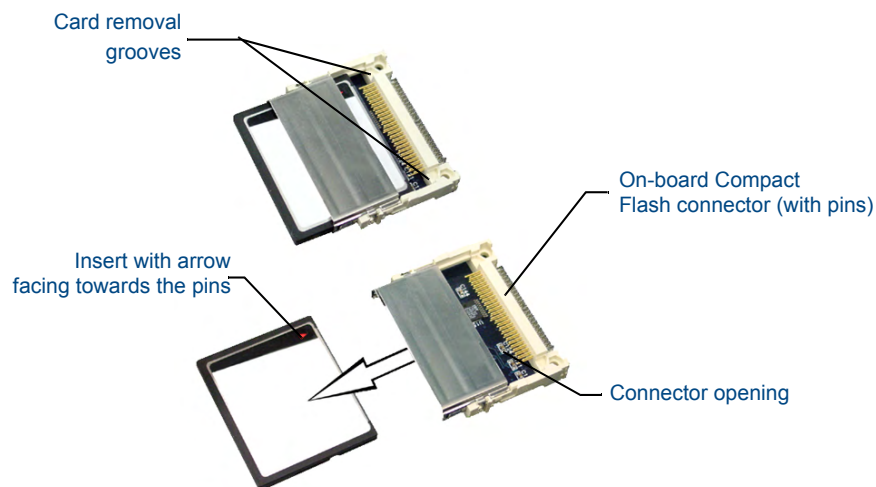

FIG. 7 Removing/installing a Compact Flash Memory card
3. Insert the tip of a grounded flat-head screwdriver into one of the card removal grooves (located on either side of the existing card), and gently pry it out of the slot (FIG. 7). Repeat this process on the opposite card removal groove. *This alternating action causes the card to "wiggle" away from the on-board connector pins.*
3. Insert the tip of a grounded flat-head screwdriver into one of the card removal grooves (located on either side of the existing Compact Flash card), and gently pry it out of the slot (FIG. 7). Repeat this process on the opposite card removal groove. *This alternating action causes the pre-existing card to "wiggle" away from the on-board connector pins.*
5. Finish the process by firmly gripping the exposed sides of the card and pulling it out (FIG. 7). **USE CARE WHEN HANDLING THE CARD.**
6. Insert the new card firmly into the slot opening connector (FIG. 7) until the contact pins are completely inside the card and securely attached to the pin sockets.